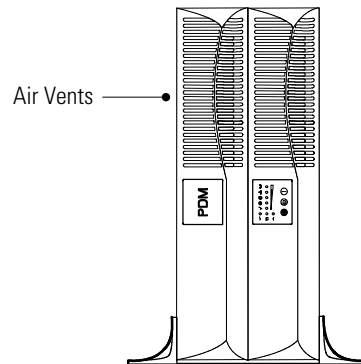
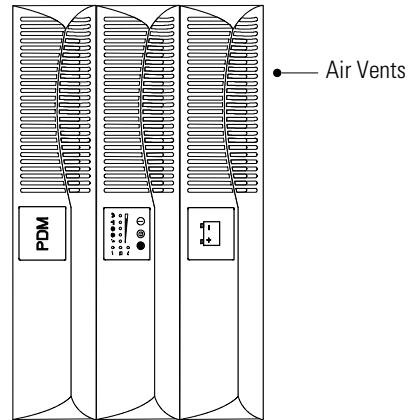

Figure 5. Pedestals with Two Cabinets
Figure 6. Tower Setup
5. Carefully position the cabinets upright with the air vents at the top (see Figure 5 or Figure 6).